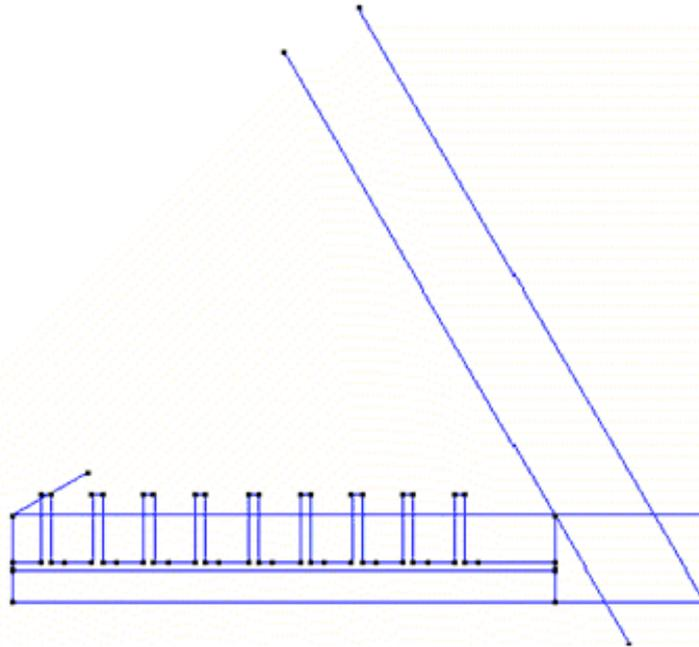

Figure 13. Profile of the pipe and the auxiliary lines
- 9 . Choose **Geometry->Delete->All Types**. (This tool may also be found in the GiD Toolbox) Select the lines and points beyond the vertical that passes through the tangential center. Press **ESC**. They will be deleted and the result should look like that shown in Figure 13.